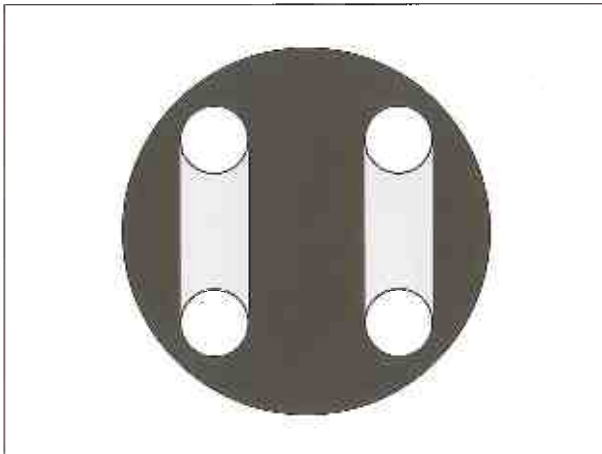

Figure 8-4 Burner imaging
- By means of the adjusting screw ( $\leftrightarrow$ ), adjust the lamp axially to the reflector so that both arcs appear to be equally large analogously to Figure 8-4.
- Using the 3 mm ball-head screwdriver and the adjusting screws for height ( $\updownarrow$ ) or side adjustment ( $\swarrow$ ), centrally position the arc image next to the arc analogously to Figure 8-4.